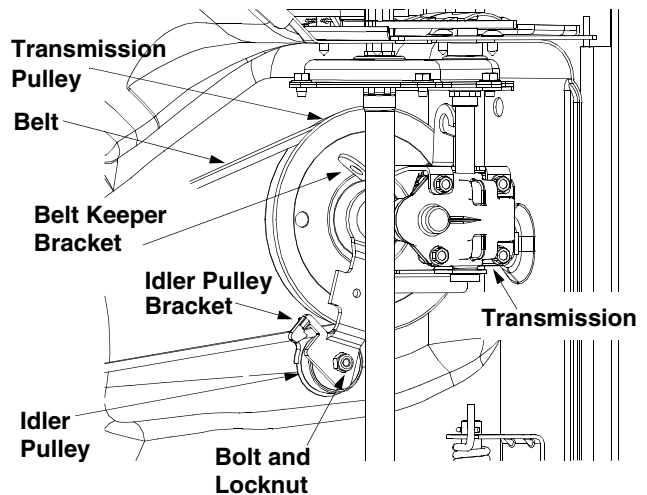

Figure 21
- Tilt the transmission forward and loosen the idler pulley bolt and lock nut half a turn. See Figure 21.
- Slide the belt out from between the belt keeper bracket and the idler pulley. See Figure 21.